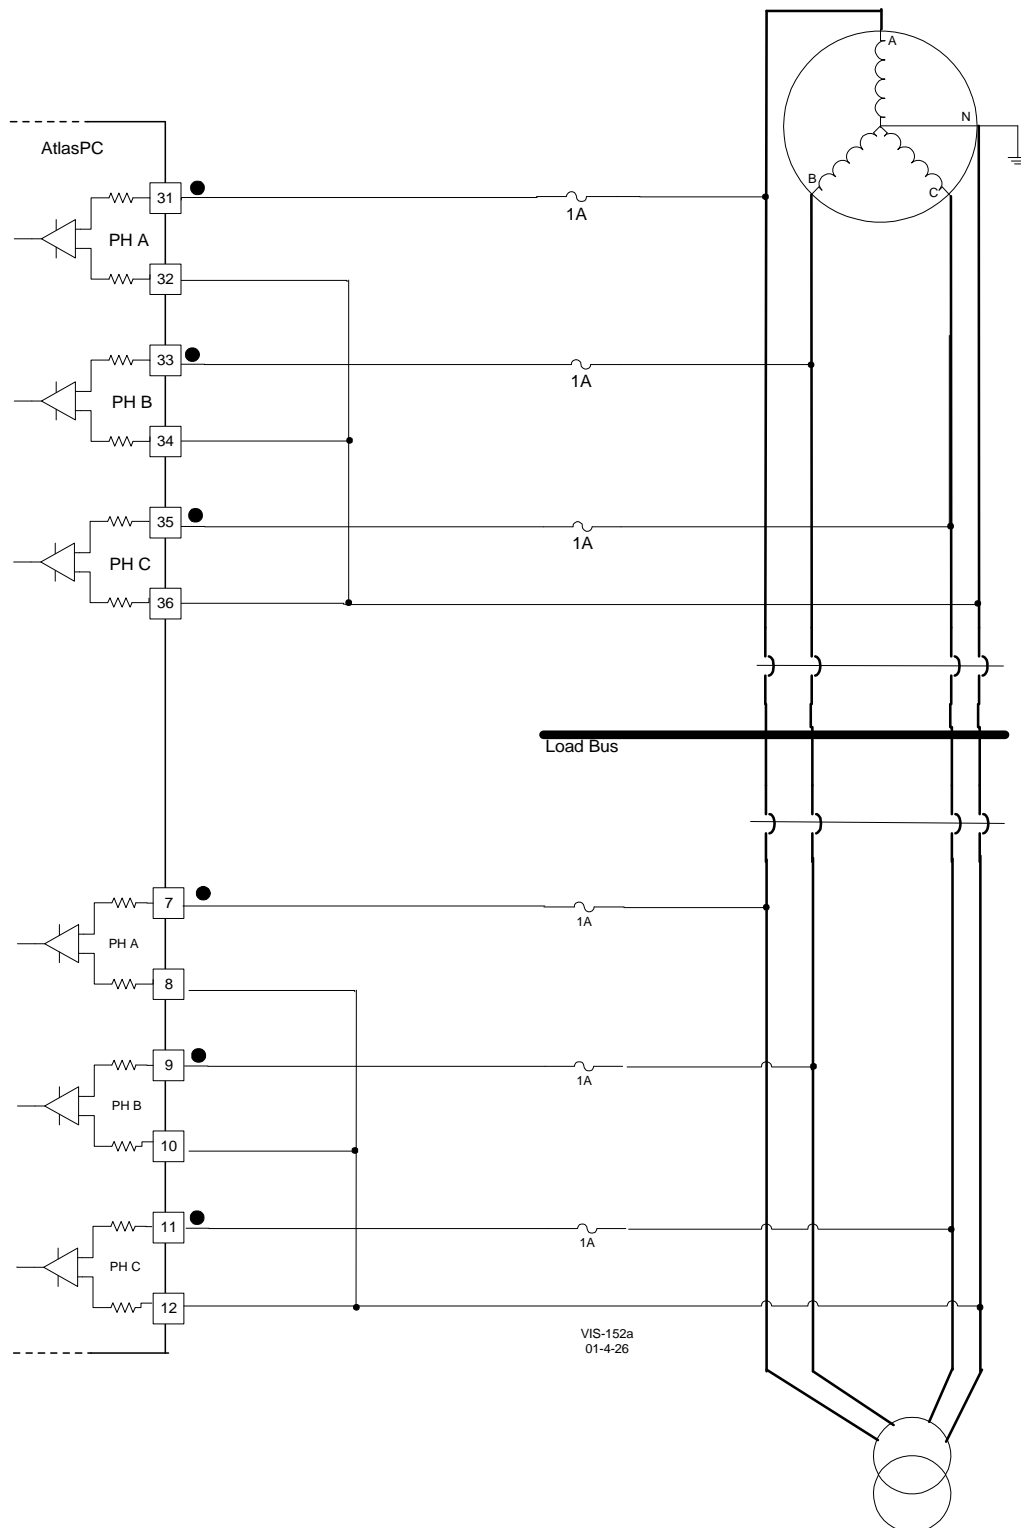

Figure 6-4. Wiring Example—Wye Connected System
- Refer to Figures 6-4 through 6-8 for PT wiring.